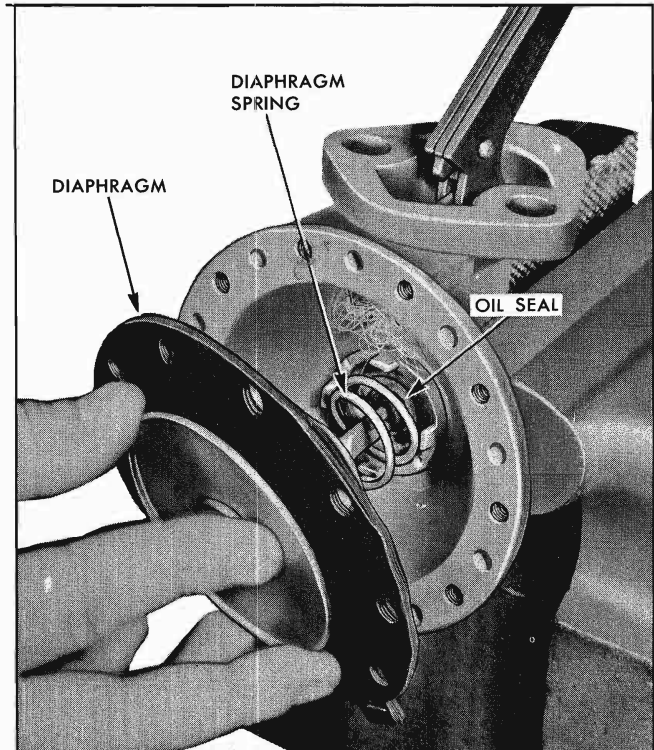

Fig. 6B-108 Sealing Diaphragm Spring in Seal Well
9. Place pump body in vise with mounting flange up (Fig. 6B-107).
11. Pick up diaphragm, retainer and spring as an assembly and push pull rod through oil seal into body. Be sure diaphragm spring is seated in seal well (Fig. 6B-108).